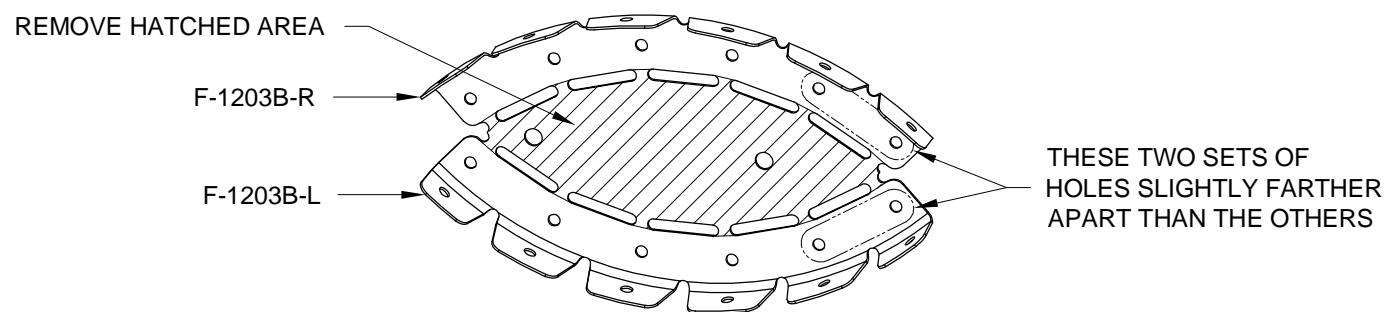

FIGURE 2: F-1203B BULKHEAD FLANGE
Step 4: Separate the F-1203B Bulkhead Flange by removing the hatched area shown in Figure 2.